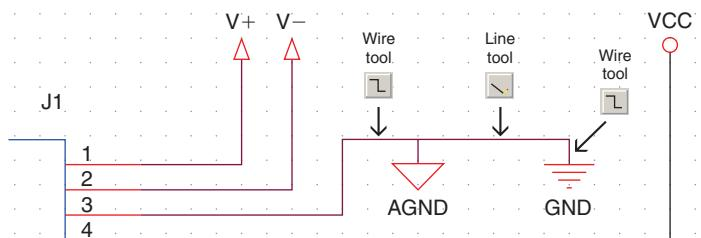

Figure 9-114 New ground connection using the Line tool.
**To use the thermal relief method of connecting isolated planes** instead of the copper strip method, delete part G1 in Capture. Use the Place Line tool to make the AGND and GND nets look like they are connected as shown in Fig. 9-114. Perform an AutoECO to forward annotate the changes to Layout.